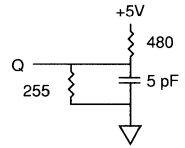

Fig. 2 OUTPUT LOAD EQUIVALENT
- tHZCE and tHZWE are specified with CL = 5pF as in Fig. 2. Transition is measured ± 500mV from steady state voltage.